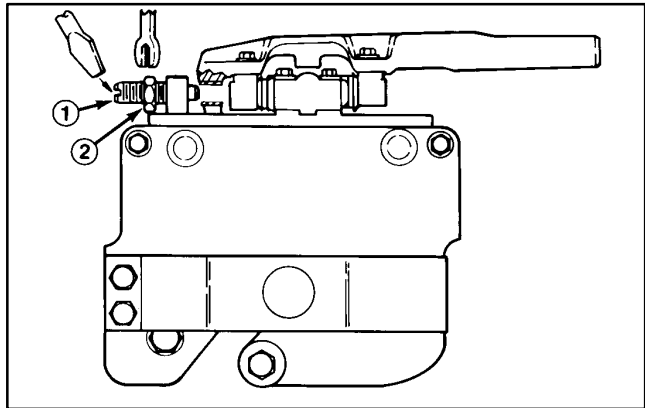
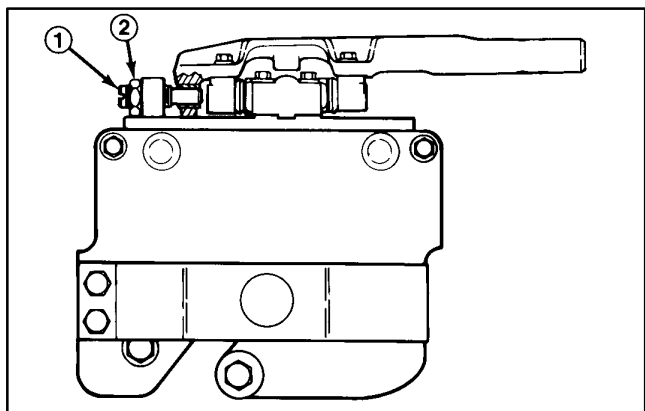

Figure 6
Figure 7
B. Start engine and lower the cutting units onto a flat surface such as a piece of 3/4" or 1" plywood (at least 20" x 30" in size). Stop engine and remove key from switch. Lock cutting units in the fixed position, by loosening the jam nut on lockout pin (Fig. 6) and screwing pin into hole in pivot arm (Fig. 7). Tighten nut to secure lockout. Raise the front rollers up so they do not contact the flat surface.
J. Loosen lockout pin so cutting unit can float freely (Fig. 6).